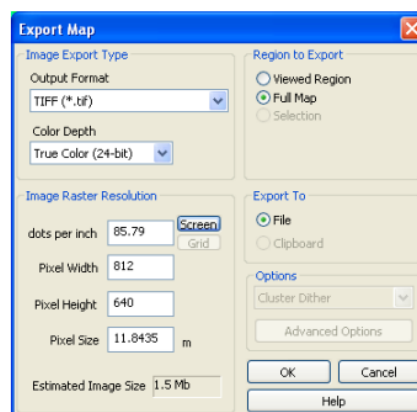

Figure 1.105 – Export map panel
2. On the *Map menu*, select *Export*. The *Export Map* dialog is in fig. 1.105.